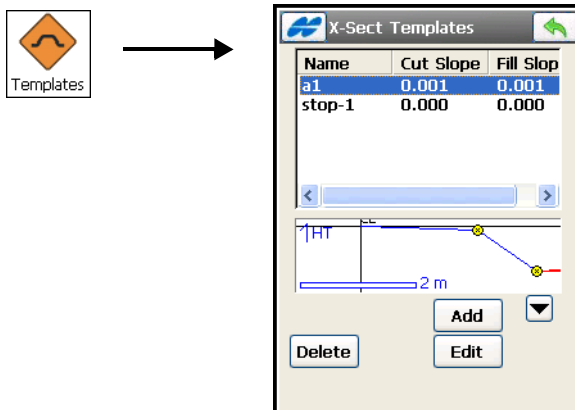

Figure 7-25. X-Sect Templates
The *X-Sect Templates* screen (Figure 7-25) displays a list of the existing templates in the upper part of the screen and a plot of the highlighted template in the lower part.
To edit an existing template, highlight it and tap the **Edit** button in the *X-Sect Templates* screen (Figure 7-25 on page 7-26).
- The ok  button – saves the changes and returns to the *X-Sect Templates* screen (Figure 7-25 on page 7-26).